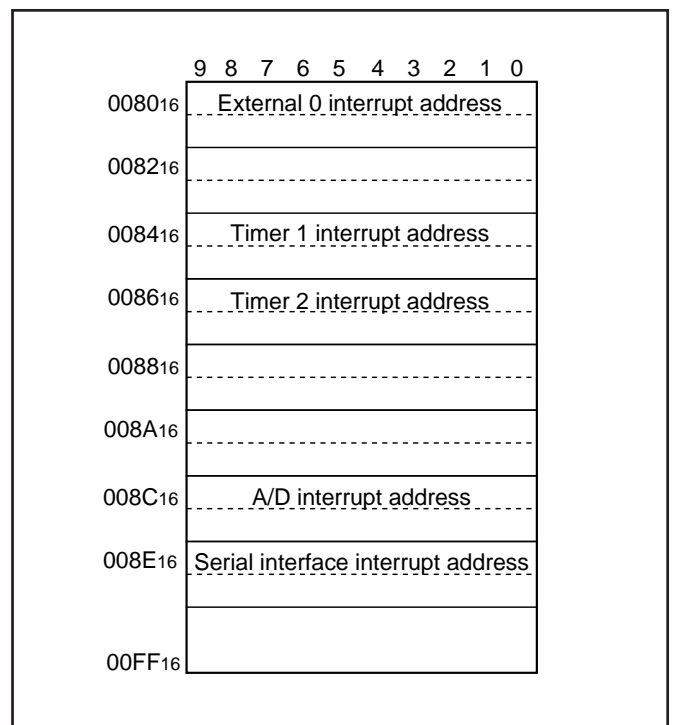

Fig. 11 Page 1 (addresses 0080₁₆ to 00FF₁₆) structure
A part of page 1 (addresses 0080₁₆ to 00FF₁₆) is reserved for interrupt addresses (Figure 11). When an interrupt occurs, the address (interrupt address) corresponding to each interrupt is set in the program counter, and the instruction at the interrupt address is executed. When using an interrupt service routine, write the instruction generating the branch to that routine at an interrupt address. Page 2 (addresses 0100₁₆ to 017F₁₆) is the special page for subroutine calls. Subroutines written in this page can be called from any page with the 1-word instruction (BM). Subroutines extending from page 2 to another page can also be called with the BM instruction when it starts on page 2. ROM pattern (bits 7 to 0) of all addresses can be used as data areas with the TABP p instruction.